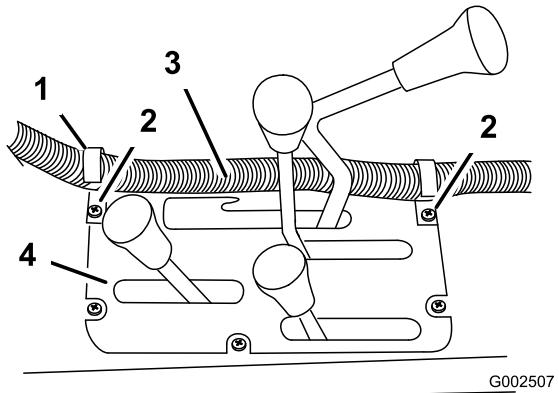

Figure 16
4. Install 2 J-clips in the center console at the points located in Figure 16 using the existing screws.